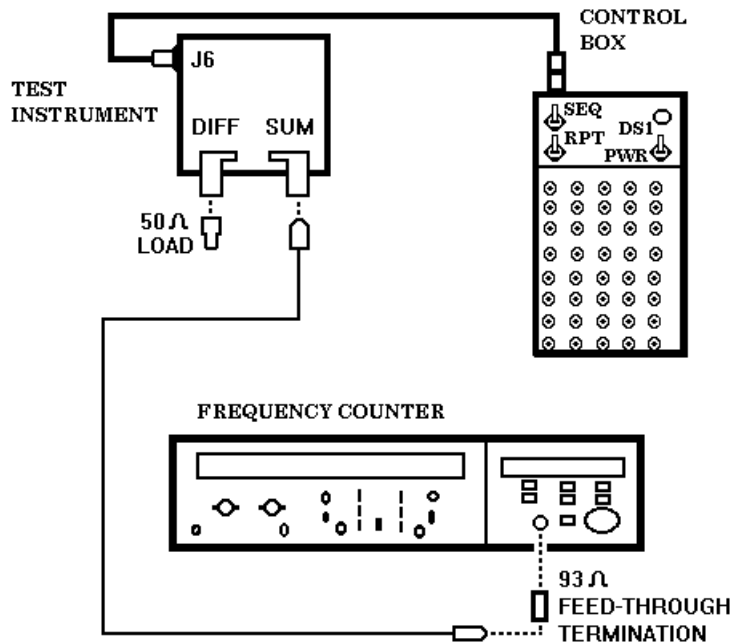

Figure 10. Transmitter frequency accuracy - equipment setup.
(1) Connect equipment as shown in figure 10.